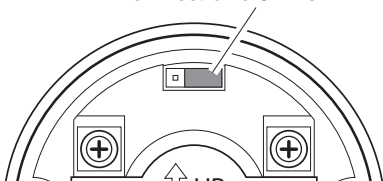

Figure 3 - Determining Correct Jumper Position (Back of Pushbutton)
5. If you have an electronic chime, move the jumper on the back of your pushbutton from the two left pins to the two right pins (see Figure 3). Press pushbutton to test again.